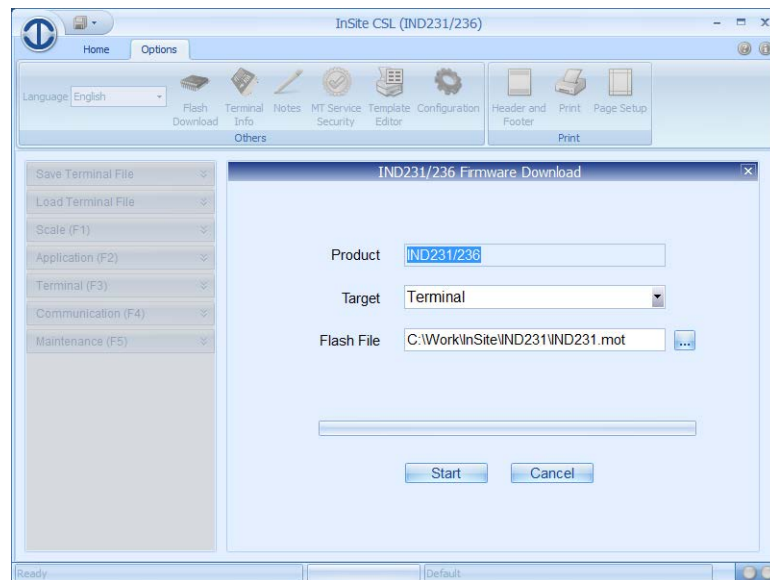

Figure 4-7: InSite CSL Product, Target and File Selection Screen
6. In the screen that appears (Figure 4-7), select **Terminal** in the **Target** field. Click the button next to the **Flash File** field and browse to the folder containing the update (.mot) file. Double click the file to select it.